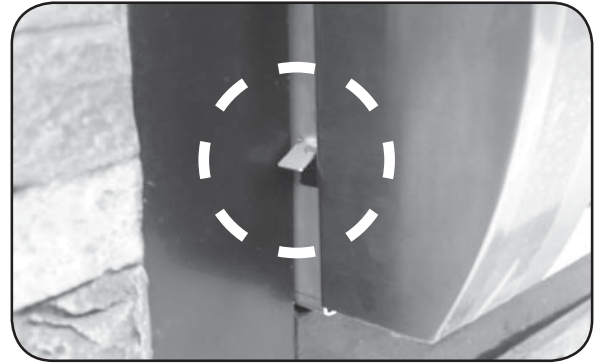
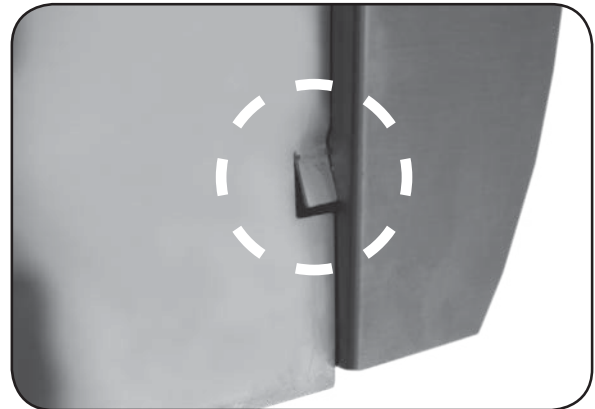

Fig. 24-1 Tab may interfere when sliding in unit
Fig. 24-2 Tab slightly bent in for clearance
**Note:** Each side of the unit has a tab just behind the control panel. These tabs prevent the control panel from moving inward. If the tabs interfere with the unit sliding in (see Fig. 24-1), use pliers to bend them inward so that they clear the enclosure sides. Leave the tabs slightly out to ensure they still keep the control panel from moving inward (see Fig. 24-2).